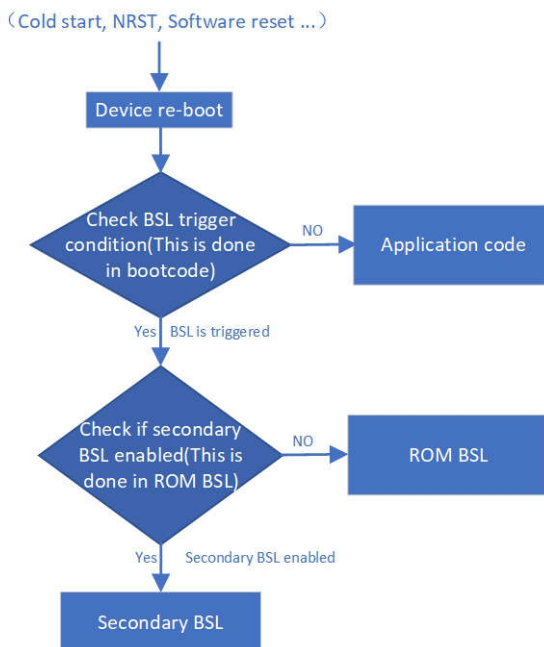

Figure 1-7. Secondary BSL Execute Flow
- For the secondary BSL start from 0x1000, you can put it anywhere in the flash except 0x0. Because the application code must start from the 0x0 address. In this condition when device power up or reseted, it checks the BSL invoke condition in the bootcode the decide run application code or BSL code. The demo reused the ROM-based BSL's trigger resources. (Both hardware, software and blank device detection, more information please refer to section 3.2 of MSPM0 Bootloader User's Guide). Figure 1-7 shows the secondary BSL demo executed flow.